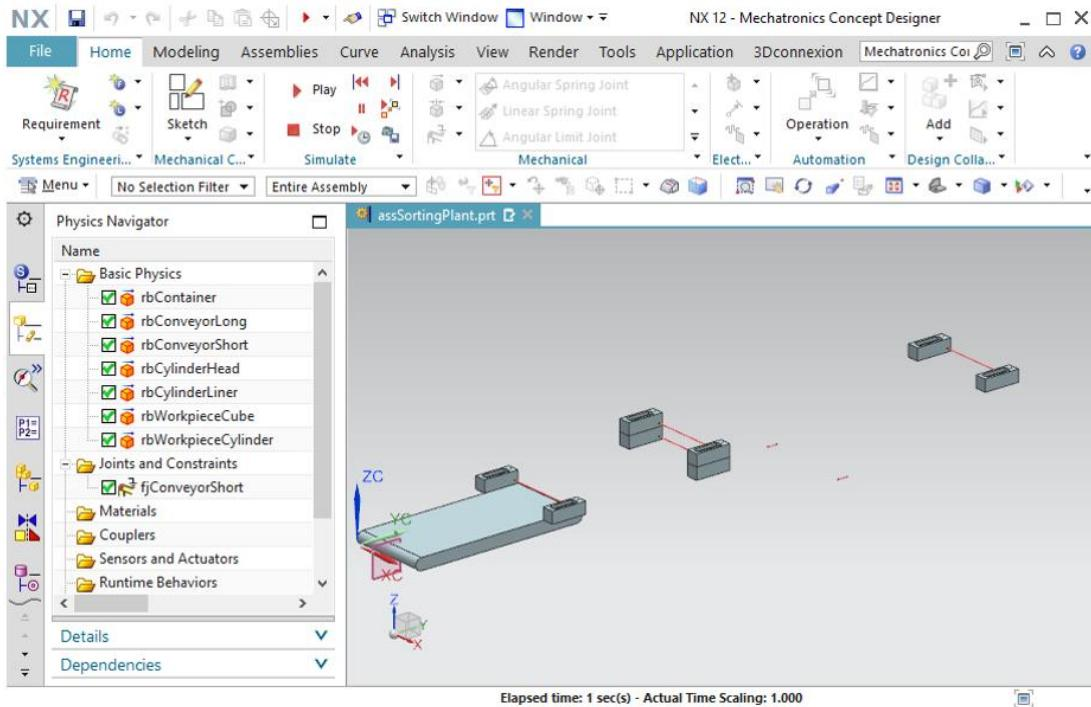

Figure 16: Simulation of a fixed joint in MCD
- Start a simulation as described in Chapter 7.1, "Section: Starting and stopping a simulation in MCD". You can see that the rigid body of the "conveyorShort" conveyor belt remains in the same position (see Figure 16). Stop the simulation. Save the project by clicking the Save icon .